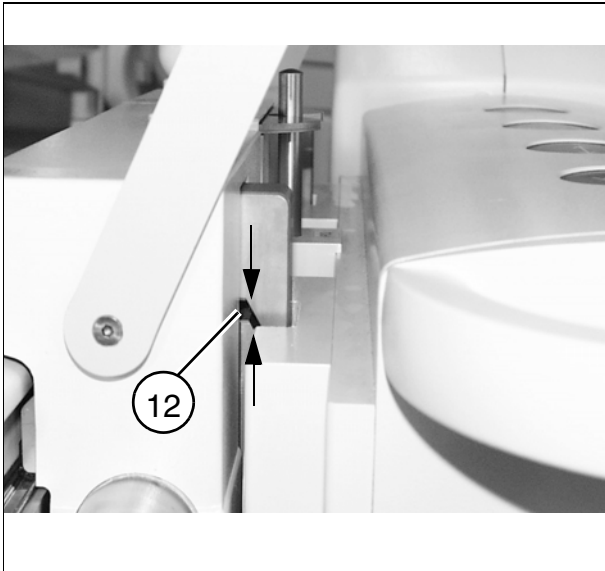

Fig. 32
- Raise the vertical column of the SIREMOBIL Iso-C until the LITHOSTAR MODULARIS hooks onto the docking plate of the SIREMOBIL Iso-C (12/Fig. 32).